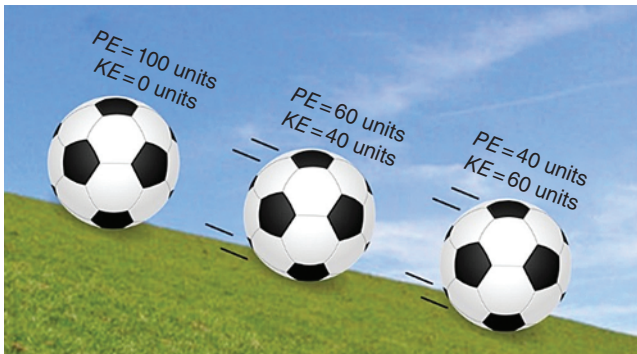

Figure 1.10 Illustration of the first law of thermodynamics concept through a soccer ball rolling down a hill with a constant total energy of 100 energy units.
It should be kept in mind energy is always conserved throughout any process, system, or application, and hence the total amount of energy will always remain constant. Figure 1.10 shows an example that graphically illustrates the conservation of energy of a soccer ball rolling down the hill where values are given for both kinetic energy (KE) as the function